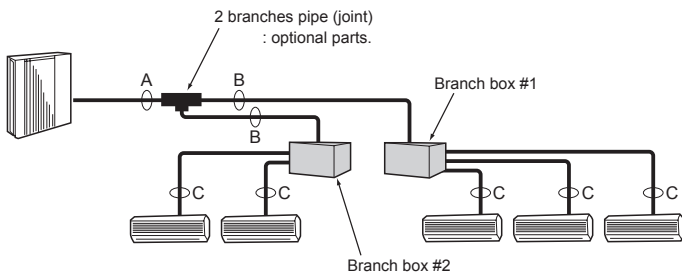

Fig. 4-2
4.3. Selecting pipe size (Fig. 4-2)